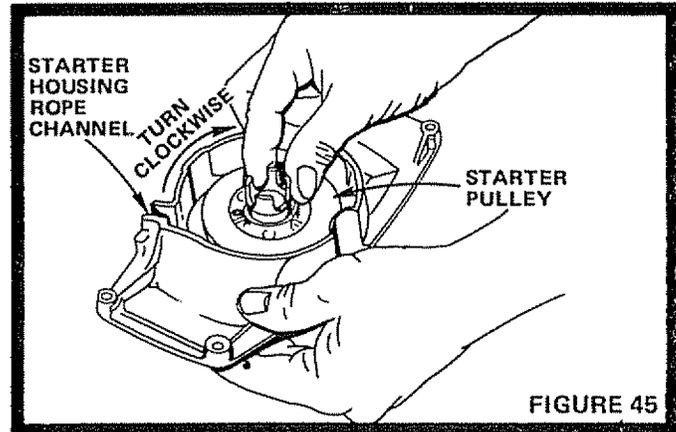

FIGURE 45
4. (Fig. 45). Turn Starter Pulley clockwise 9 full turns to wind Starter Spring. Align hole in Pulley with Starter Housing Rope Channel. Lock Pulley in place with a screwdriver.